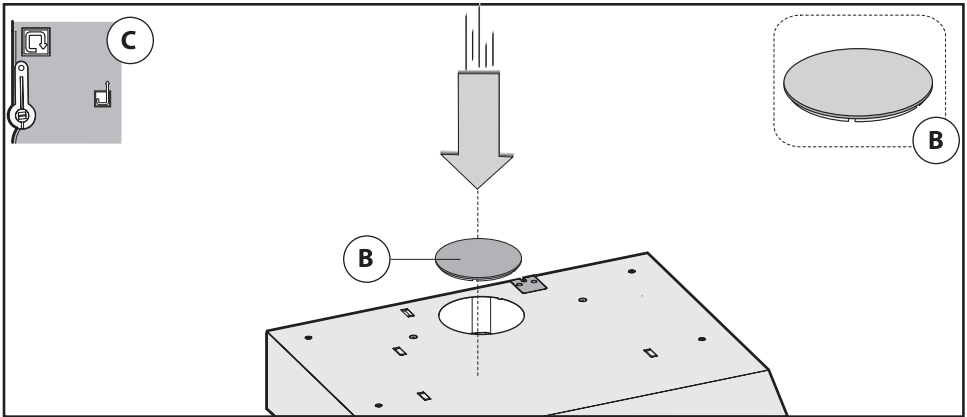
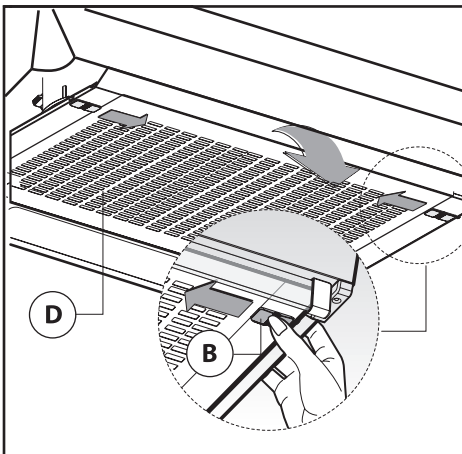
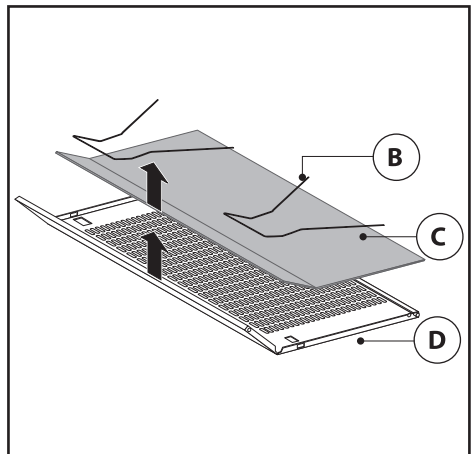
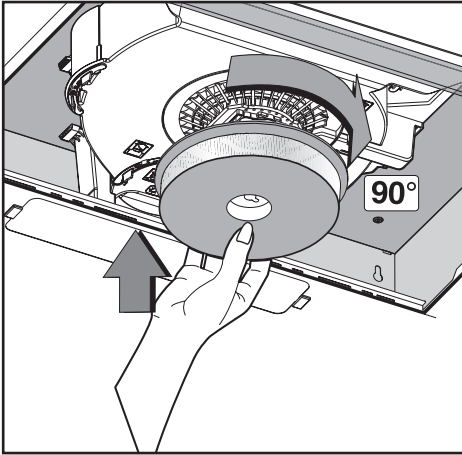

Fig.4
Fig.5
Fig.6
Fig.7
- The minimum distance between the support surfaces of the cooking pots on the cooker top and the lowest part of the cooker hood must be at least 65 cm. If a connection tube composed of two parts is used, the upper part must be placed outside the lower part. Do not connect the cooker hood exhaust to the same conductor used to circulate hot air or for evacuating fumes from other appliances generated by other than an electrical source. Before proceeding with the assembly operations, remove the anti-grease filter(s) (Fig.6) so that the unit is easier to handle.
Prior to proceeding with the assembly operations (according to the model that you have purchased), to facilitate handling of the device, remove the grille as indicated in Fig. 5.
- If the hood is a **filter** model, the lever **C** must be positioned as indicated in Fig. 4.
To transform an extractor hood version into a filter hood version, please inquire with your retailer about purchasing charcoal filters. The filters should be fitted to the extraction assembly inside the hood, by centring them and rotating them 90 degrees, until they click into place (Fig. 7). To do this, remove the grille **D** (Fig. 5). Close the air outlet opening with the plug **B**, as indicated in Fig. 4.
To replace the acrylic or metal panels you need to first remove the grille **D** by pushing the two side buttons **B** inwards as indicated in figure 5. Remove the two filter clips **B** (fig. 6) and the acrylic or metal panel **C**. To reassemble the part, simply perform the procedure in reverse.